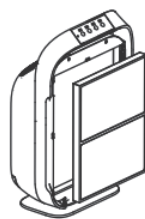

Fig. 3
4. Remove the HEPA filter (3) (Fig. 3).